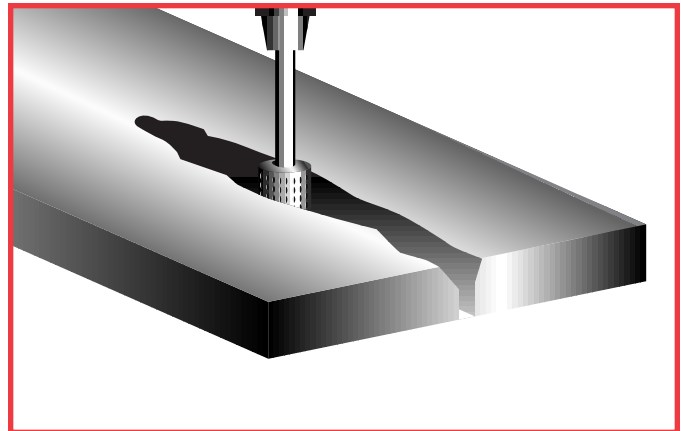

Figure 10. Grind out the repair area for maximum adhesion.
3. To **create a better bond**, drill or edge grind the cracked area with an abrasive wheel to "V" out the cracked area. After the area has been opened up, clean the area of any residue using Loctite® ODC-Free Cleaner & Degreaser. (See figure 10)